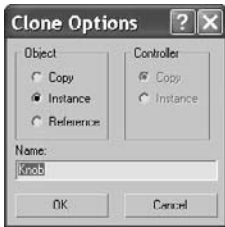

Figure 4.73
2. You'll need a few copies of the original knob, one for each drawer. Choose Edit → Clone (Figure 4.73). You are going to use the Instance command. An instance is a copy, but is still connected to the original. If you edit the original or an instance, all of the instances change. Click **OK** to create an instance.